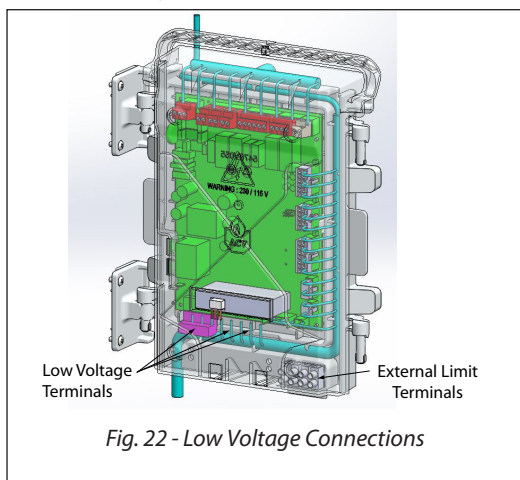

Fig. 22 - Low Voltage Connections
1. Connect the room thermostat or dry contact zone valve end switch wires to low voltage terminals X6-3&4 or X5-5&6 located at the bottom of the CTRLMax control module as shown in *Fig 22 below*.
1. Connect the DHW aquastat or temperature sensor wires to low voltage terminals X4-1&2 located at the bottom of the CTRLMax control module as shown in *Fig. 22 on page 33*.
3. Connect the external limit wires to the Manual Reset Limit or Auto Reset Limit low voltage terminals located on the lower right corner of the CTRLMax control module housing as shown in *Fig. 22 on page 33*.
1. Connect the system temperature sensor wires to low voltage terminals X5-3&4 located at the bottom of the CTRLMax control module as shown in *Fig. 22 on page 33*.